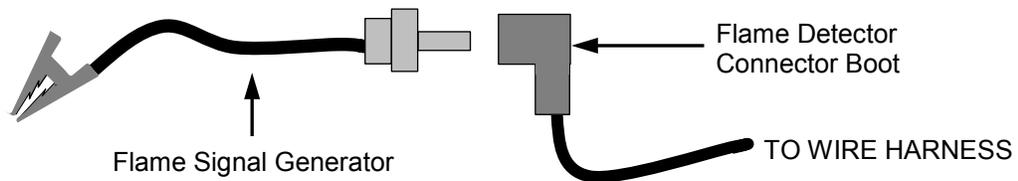

Figure 6.3a: Connecting the Flame Signal Generator
- (b) Push the **BACK** button three (3) times to return to the upper level menu.
- (c) When the Controller gets into the ignition phase, the Control Panel will show IGNITION TRIAL. At that point attach the alligator clip (see Figure 6.3a) to any bare metal surface or ground. The C-More display should now show FLAME PROVEN and begin to ramp up to 100% fire rate. Note that no gas or flame is present in the boiler at this time.